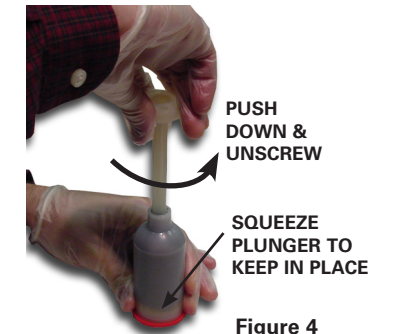

Figure 4
- At the last stroke, push the mixing rod all the way in to the bottom (red side), grasp the cartridge firmly at the bottom to hold plunger in place, and immediately unscrew the mixing rod and remove carefully. See Figure 4.